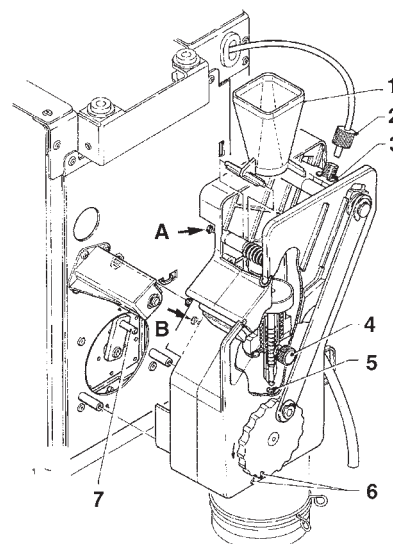

Fig. 14
- remove the boiler teflon hose connection from the upper piston, paying attention not to lose the seal (see Fig. 14);
- Loosen screws A and B enough to release the coffee funnel (see Fig. 14);